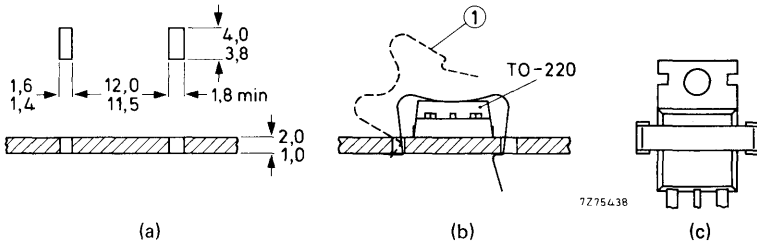

Fig. 1 (a) Heatsink requirements; (b) mounting (1 = spring clip); (c) position of the device (top view).
2. Push the short end of the clip into the narrow slot in the heatsink with the clip at an angle of 10° to 30° to the vertical (see Fig. 1).
3. Push down the clip over the device until the long end of the clip snaps into the wide slot in the heatsink. The clip should bear on the plastic body, not on the tab (see Fig. 1(c)).